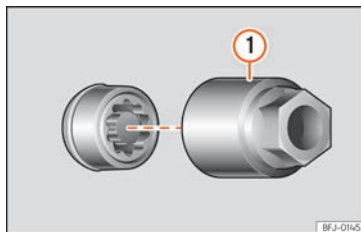

Fig. 34 Anti-theft wheel bolt with cap and adapter.
- Insert the special adapter >>> **Fig. 34** ① [vehicle tools >>> **page 43**] onto the anti-theft wheel bolt and push it on as far as it will go.